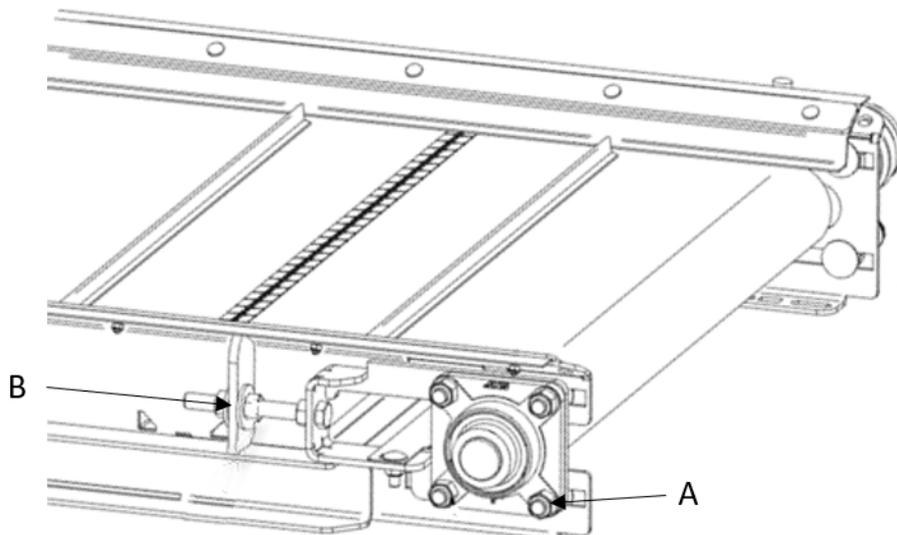

Figure 60 — Adjusting the Horizontal or Inclined Conveyor Belt Tension
1. Loosen the ball bearing nuts (Figure 60, 2).
2. Adjust the tension by tightening or loosening the adjusting nuts (Figure 60, 1).
3. Tighten the ball bearing nuts (Figure 60, 2).